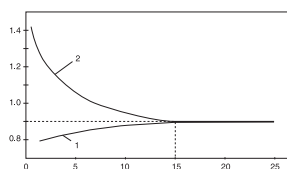

Fig. 13: Dependence of installation factor f on wall distance a
- The installation factor can be entered in the transmitter or the cell constant can be corrected by multiplication with the installation factor to ensure correct measurement. The value of the installation factor depends on the diameter and the conductivity of the pipe as well as the sensor distance from the wall. If the distance from the wall is sufficient ($a > 15\text{mm}/0.12\text{in}$, from DN 65/2½”), it is not necessary to consider the installation factor ($f = 1.00$). If the distance from the wall is smaller, the installation factor increases in case of electrically insulating pipes ($f > 1$) and decreases in case of electrically conductive pipes ($f < 1$). The installation factor can be measured using calibration solutions or be approximately determined from a diagram (see fig. 13).